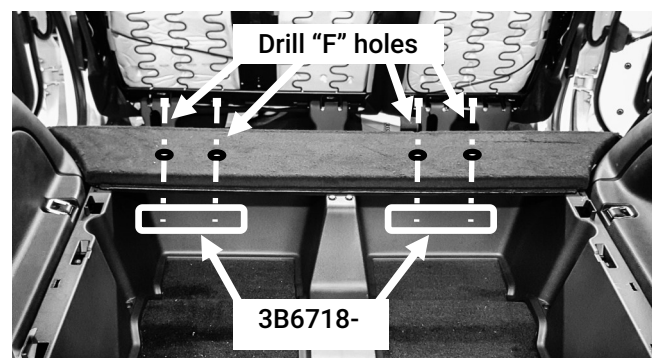

Figure 12
- B. Using an "F" size drill bit, drill through the cargo floor in these (4) locations. It may be necessary to remove the front panel and wings in order to gain access to the hole locations (Fig 12).
- D. Insert (4) [3X39] hex bolts through the front panel and into the holes drilled in step B.
- E. Place (1) of the barrier mounting plates [3B6718-08] under the (2) bolts on the driver side and thread the bolts into the weldnuts.
- F. Repeat step E. using the other (1) barrier mounting plate under the (2) bolts on the passenger side.
- G. Tighten all (4) [3X39] bolts.